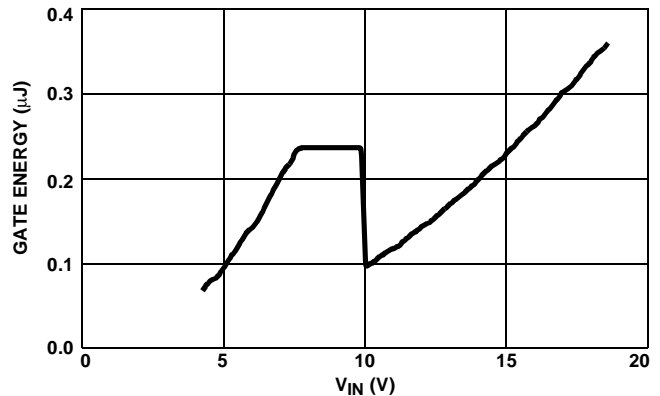

FIGURE 13. MOSFET GATE ENERGY CHARACTERISTICS vs INPUT VOLTAGE
The gate drive power is a function of the MOSFETs gate charge, voltage and switching frequency. Figure 13 shows the combined gate energy required by the internal MOSFETs with the charge pump characteristics. To determine the total bias power:
1. Multiply the value in Figure 13 by the switching frequency.